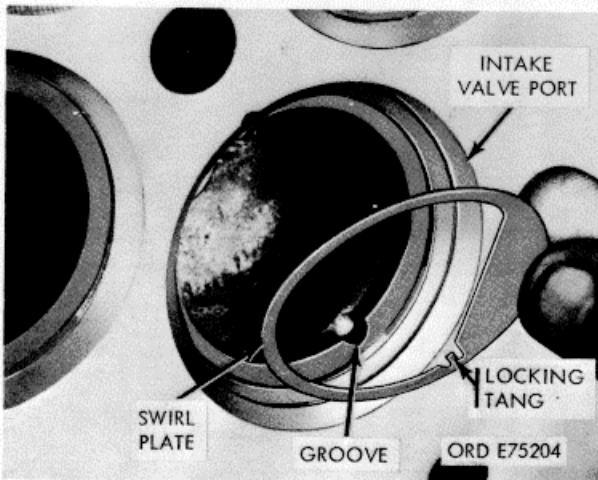

Figure 3-45. Intake valve port swirl plate-installation
(2) Install swirl plate in intake valve ports only as shown in figure 3-45.